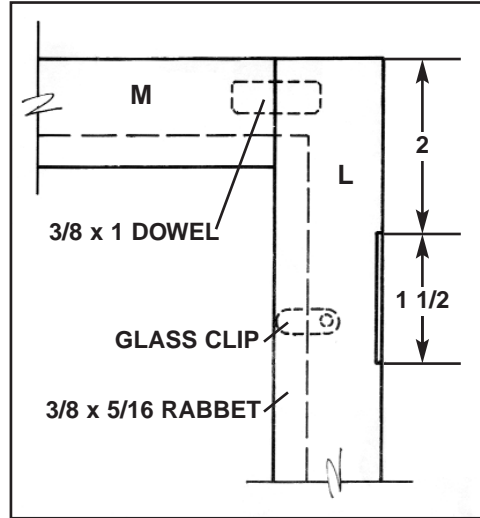

Figure 4
5. Drill a 3/8" hole in boards M and L for 1" dowel. Refer to Figures 4 and 5.
12. Rout a 3/8" x 5/16" deep rabbet on the inside edge of door L and M. Refer to Figures 4 and 5.
13. Apply finish at this time. Locate knobs in the middle of board L. Attach hinges and glass supports. Insert panel N and glass. Attach two magnetic latches to board O for doors. Refer to Figures 4, 5 and 6.